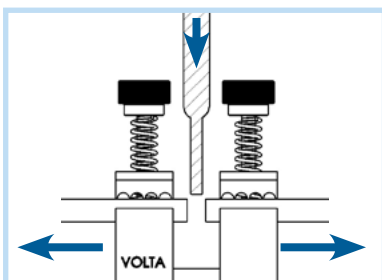

Fig. 16
5. Open the Pliers to maximum gap and place the welder's tip between the belts edges (Fig. 16).